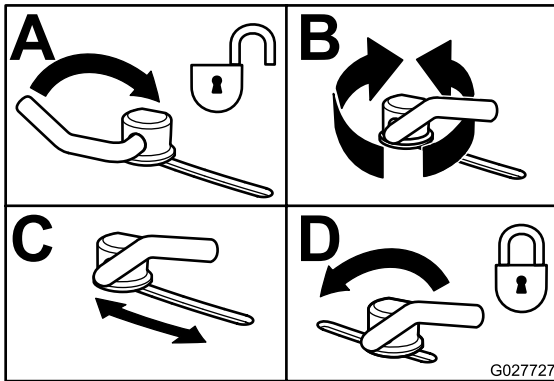

Figure 27
3. To adjust the cam locks, swing the lever up to loosen the cam lock (Figure 27).
5. Swing the lever back over to tighten the baffle and cam locks (Figure 27).